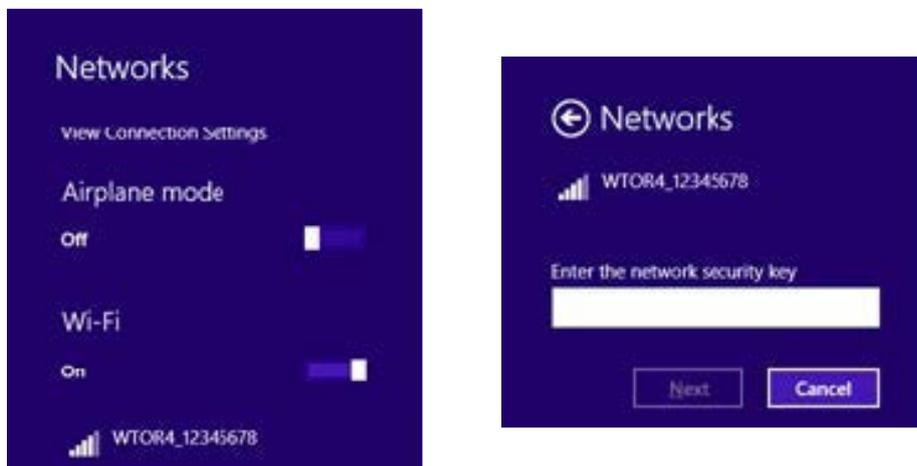

Figure 2-4 Wireless Connection
- Figure 2-4 Wireless Connection 10